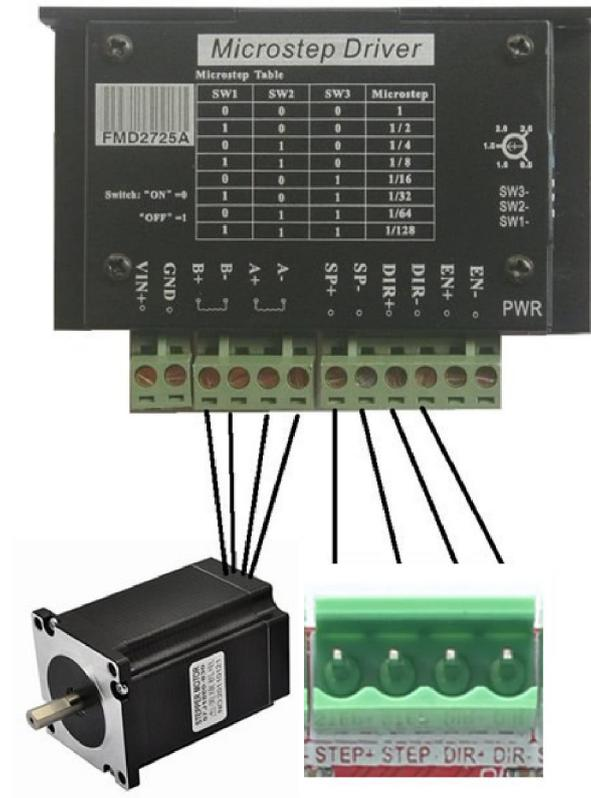

Figure 2-6 Stepper motor driver connection method
- n F) 5-axis stepper motor control signal output , defined as CK+\CK-\DIR+\DIR-. There are positive pulse, negative pulse, positive direction, negative direction. These port are common positive connection. Therefore, on the board of CK + and DIR + are linked together to 5V. So this board does not support the common negative connection. Wiring method refer to Figure 2-6. This card doesn't have EN signal, Most drives on sale should not connected to the EN signal. It is defined as X \ Y \ Z \ A \ B channel from left to right, see as Figure 2-6.